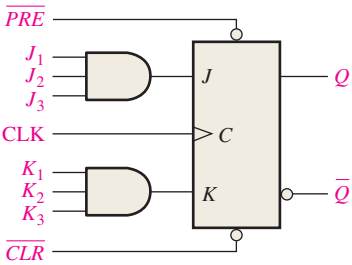
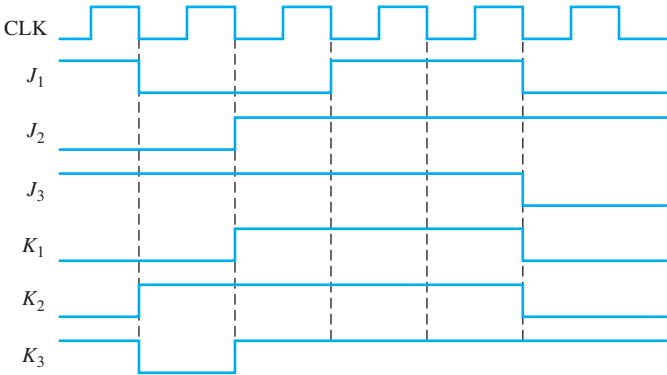

FIGURE 7-85
FIGURE 7-86
16. The following serial data are applied to the flip-flop through the AND gates as indicated in Figure 7-85. Determine the resulting serial data that appear on the Q output. There is one clock pulse for each bit time. Assume that Q is initially 0 and that \overline{PRE} and \overline{CLR} are HIGH. Rightmost bits are applied first.
17. For the circuit in Figure 7-85, complete the timing diagram in Figure 7-86 by showing the Q output (which is initially LOW). Assume \overline{PRE} and \overline{CLR} remain HIGH.